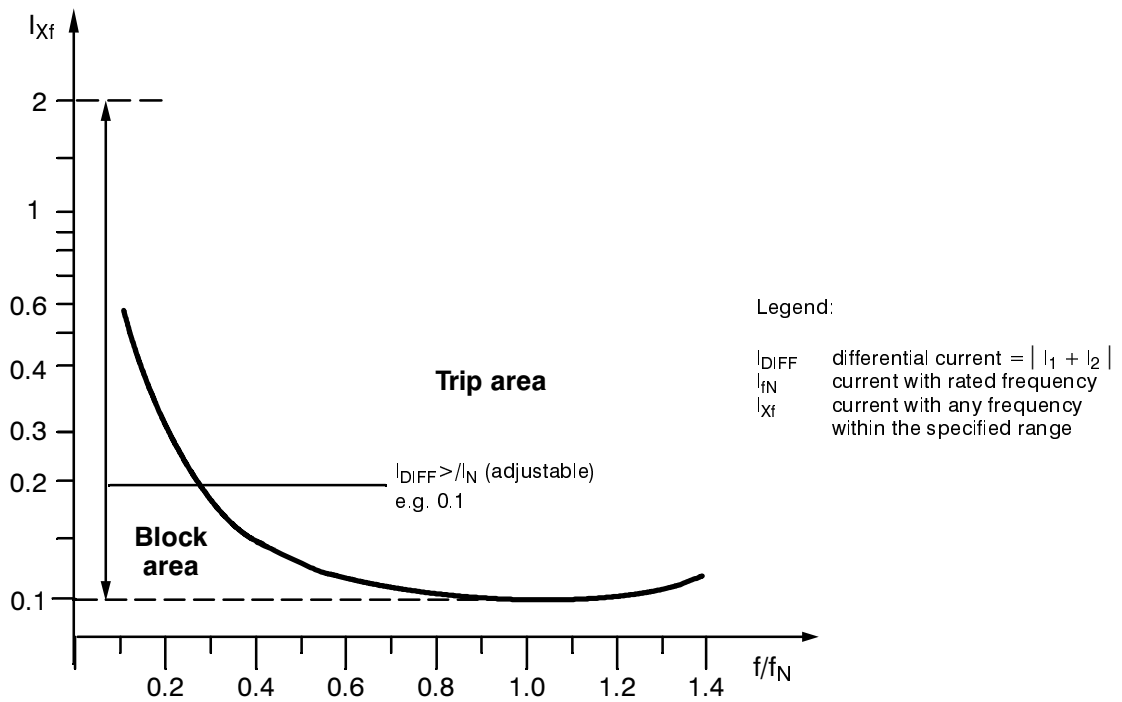

Figure 3.5 Frequency dependency (generator or motor protection)
– Frequency in range  $0.8 \leq f/f_N \leq 1.2$   $\leq 1\%$  (refer to Figure 3.5)